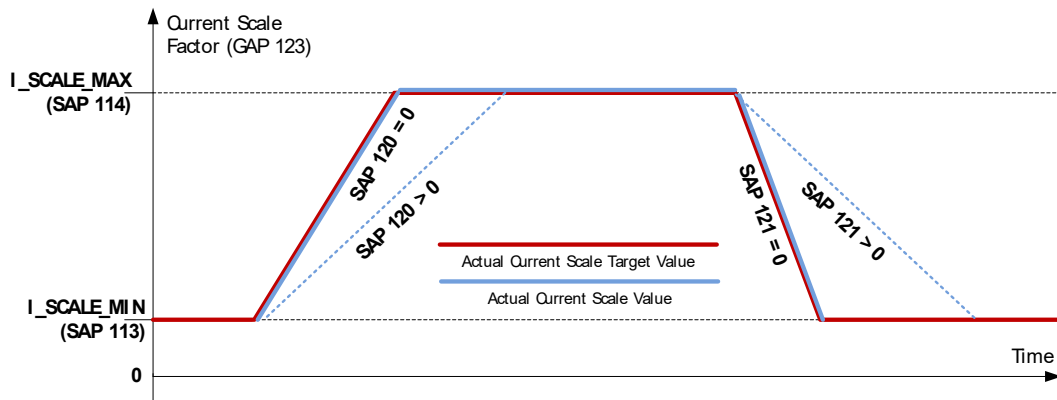

Figure 8.7 Using delay times for current increase and decrease
Additionally, there are a couple of parameters to adapt the dynamic behavior of the current regulation (shown in Figure 8.7):
- Axis parameters 120 and 121 define a delay timer value. Each time the current scale factor needs to be updated (increased or decreased) a timer is started with the respective delay value. The next increment or decrement will only be done when the timer is zero. If the parameters 120 and 121 are set to zero (default), the current scale factor is always directly set to the target current scale factor as defined by axis parameters 113, 114, 116, and 117. The effects of axis parameters 120 and 121 are shown in Figure 8.7. For example, the current scale value can immediately be set to its target value while it will be decreased with some delay.